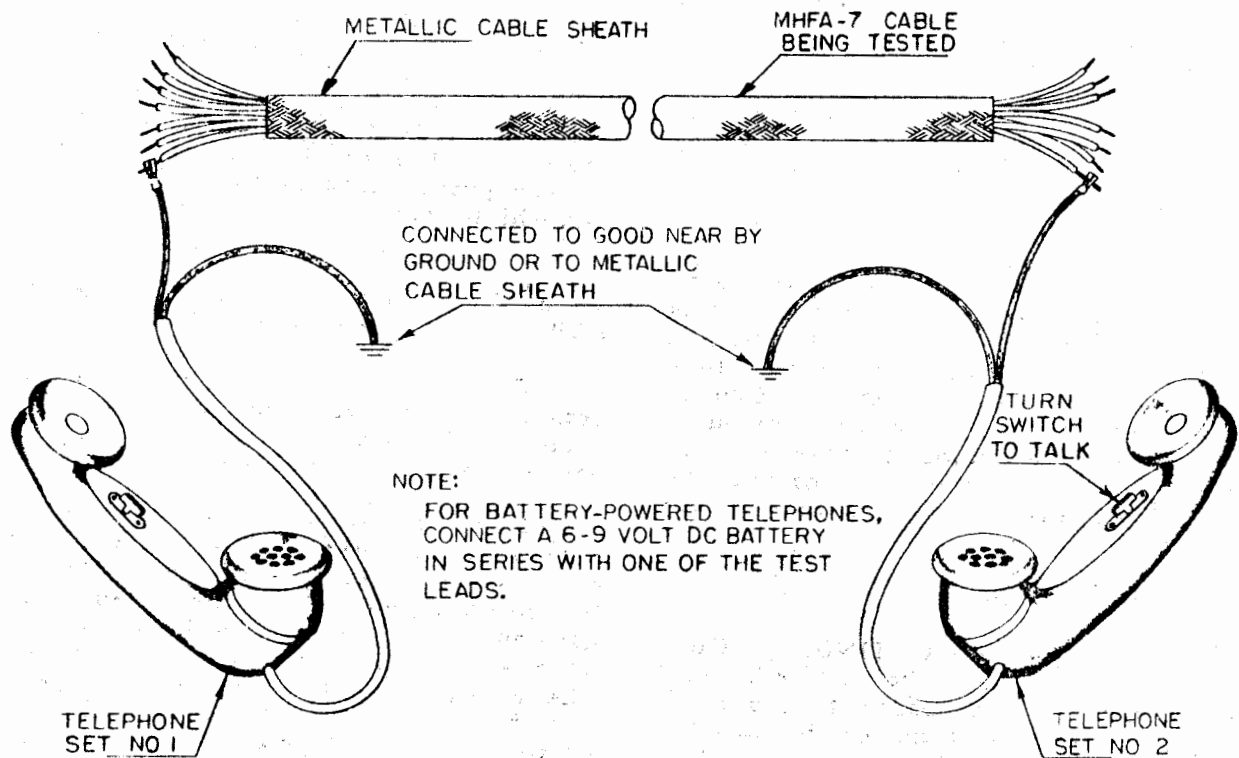

Figure 4-2. Testing Cable with Sound or Battery-Powered Telephones
(1) TEST FOR CONTINUITY. - Two headsets and two operators are required; one at each end of the cable. Ground one lead on each headset and connect the remaining lead on headset No. 1 to a preselected, color-coded, conductor in the cable. Connect the free lead of headset No. 2 to the preselected, color-coded, conductor at the other end of the cable. If there is continuity, and conversation can be made over the phones, a click will be heard in the phones. After establishing continuity, another conductor is selected and the test repeated until all the conductors are checked. See Figure 4-2.